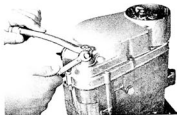

Fig. 4-7-1
- 1) Remove the kick-starter crank clamping bolt, and remove the crank. (Fig. 4-7-1)